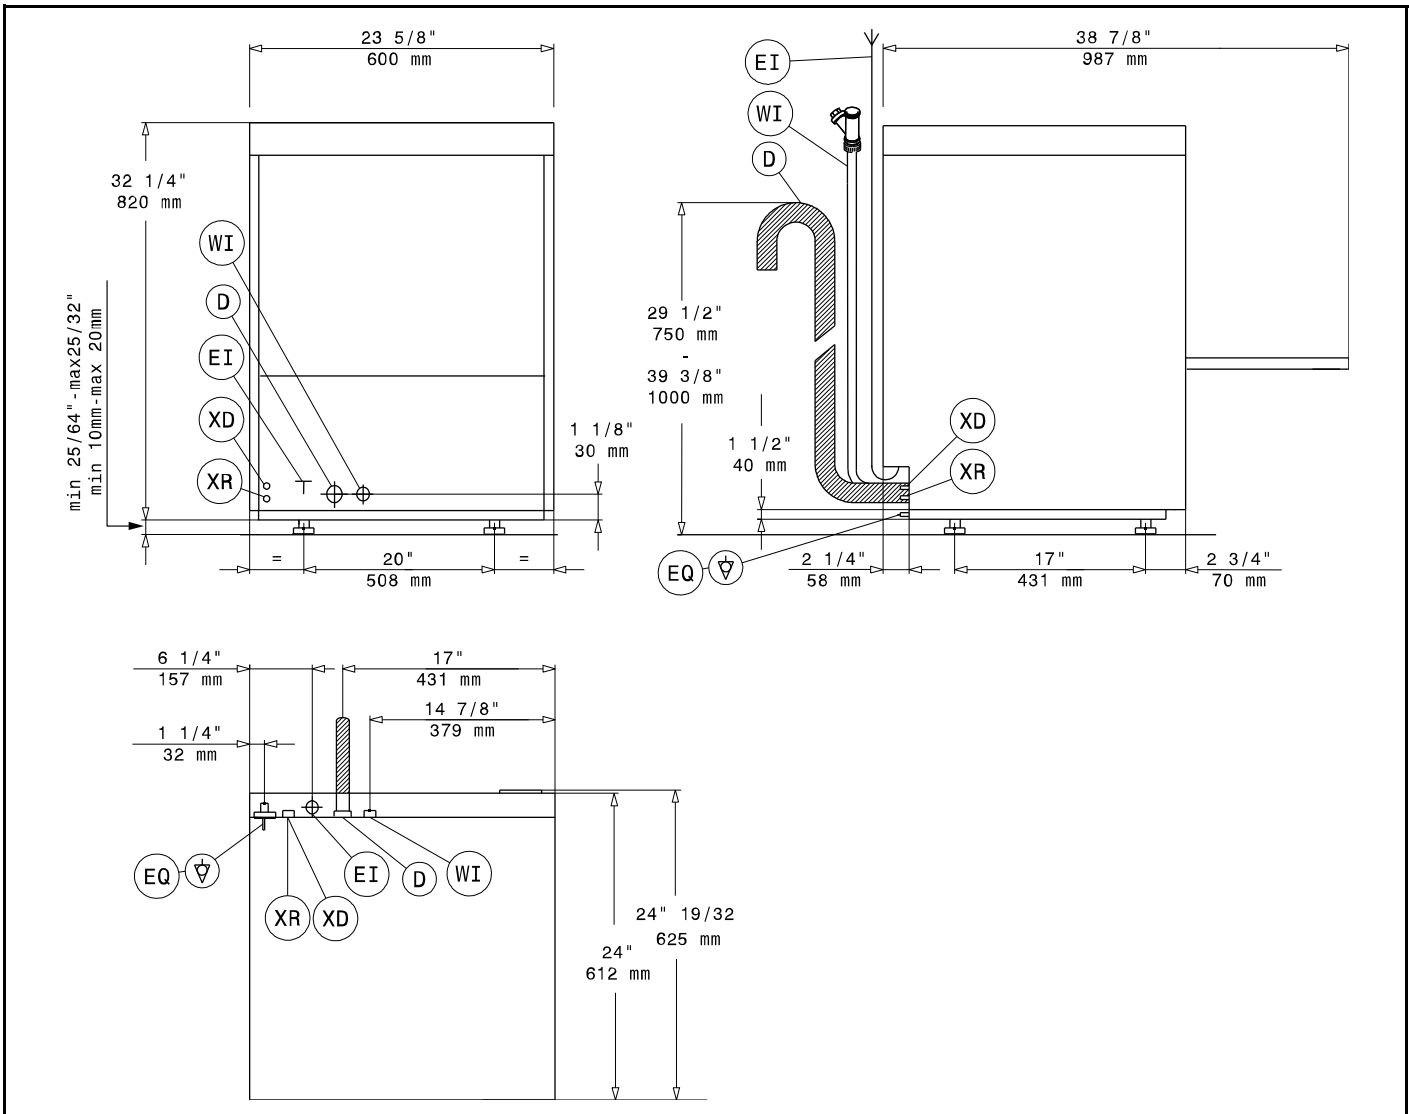
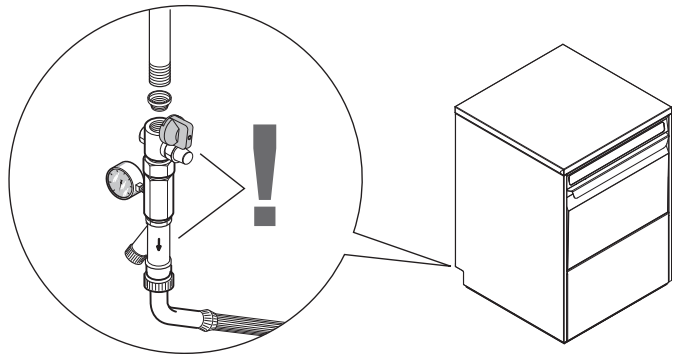

Figure 4
Figure 6
**Legend Figure 4**
- Connect the appliance water supply pipe “A” (Figure 4) (keeping with local plumbing codes) to the incoming water supply. Install a shutoff valve, Y-Strainer, and a pressure gauge between the appliance and the incoming water supply of the unit (Figure 6).
- The appliance requires a ground connection to the unit ground screw located at the rear of the unit marked “Q” (Figure 4) in the manual and marked with the symbol “⚡” on the unit. The ground wire must have a cross section of AWG 8/8.35 mm2. Do not use the wiring conduit or other piping for ground connections. If necessary, have the electrician supply the ground wire.